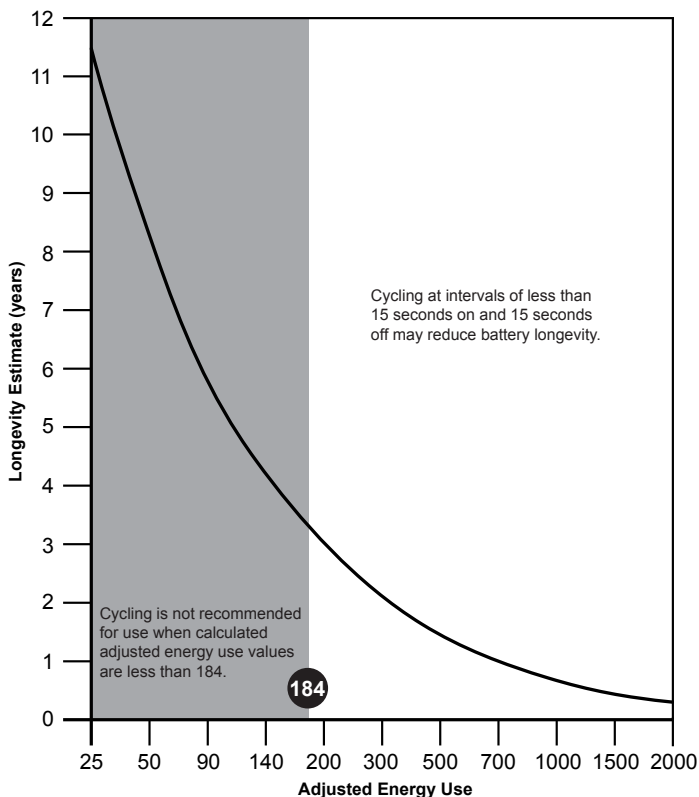
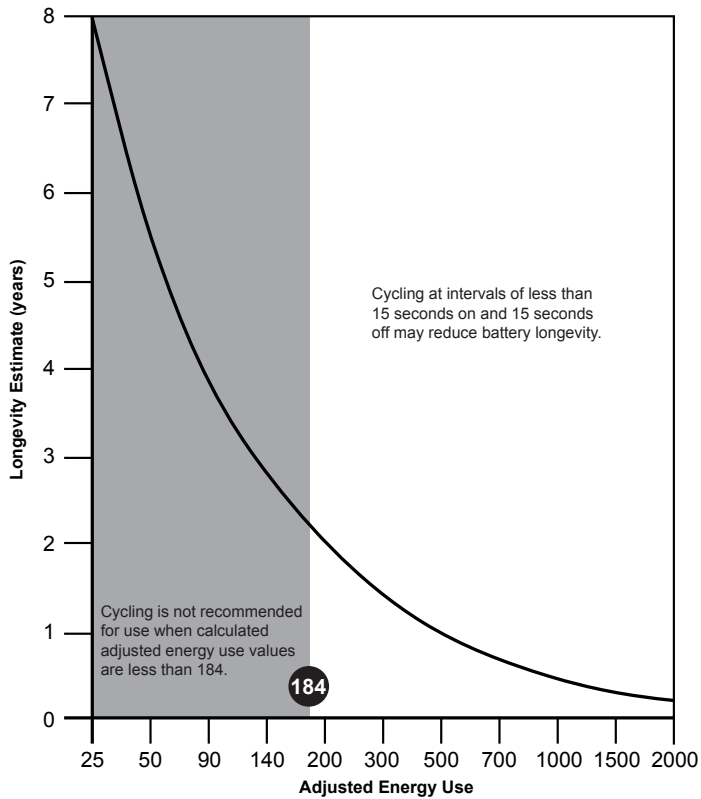

Figure 2. *Activa PC Neurostimulator longevity estimates (years) for energy use.*
Figure 3. Activa SC Neurostimulator longevity estimates (years) for energy use.
Note: The use of cycling may cause a reduction in longevity depending on programmed settings. Refer to steps on estimating battery longevity and the Adjusted Energy Use graph (Figure 2) for additional information.
11. Use the adjusted Energy Use value and determine the battery longevity from Figure 2 and Figure 3.
Use the adjusted energy use to find the battery longevity from the graph in Figure 2.
Use the adjusted energy use to find the estimated battery longevity from the graph in Figure 2.
Use the adjusted energy use to find the battery longevity from the graph in Figure 3.